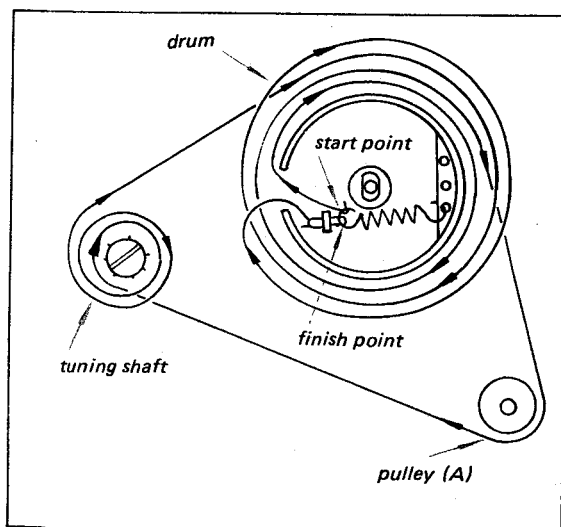

Fig. 2-16 Tuning-capacitor drive cord stringing
3. Follow the stringing diagram as shown in Fig. 2-16. Note that the dial cord should run through the inner groove of the drive drum.